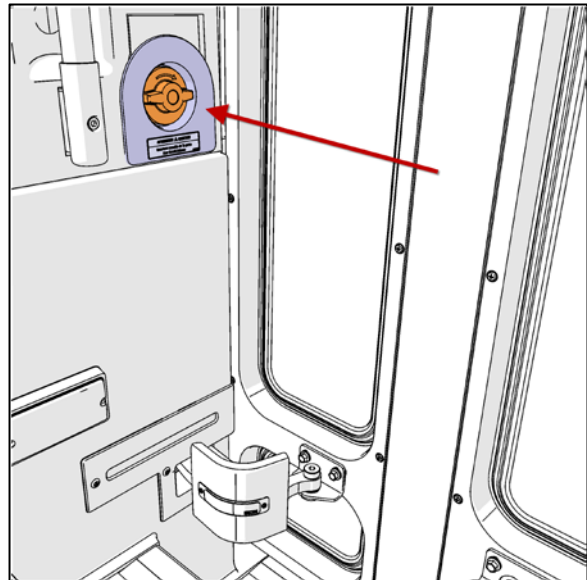

Figure 15
28. Release the air from the front door using the front door dump air valve (Figure 15).